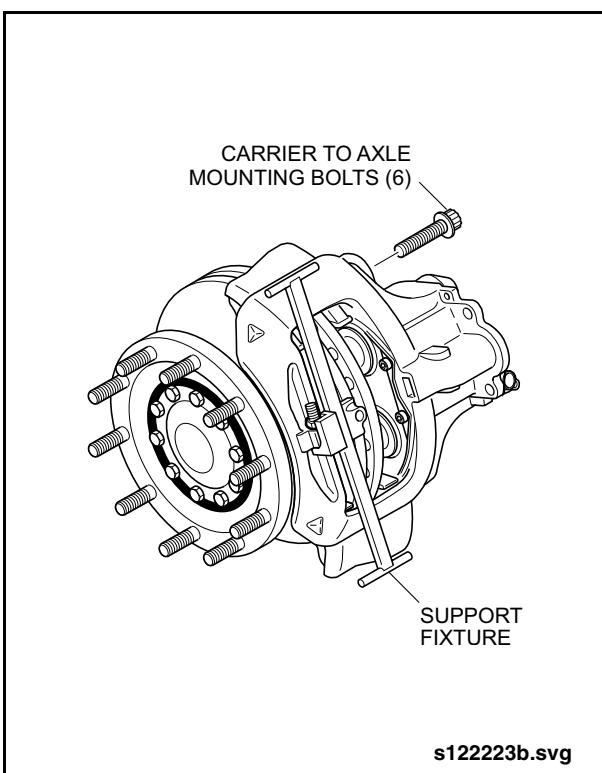

Fig. 1-58: Brake Caliper Removal
6. Install the caliper support fixture (Item 1 from special tools list). See "Fig. 1-58: Brake Caliper Removal" on page 61.